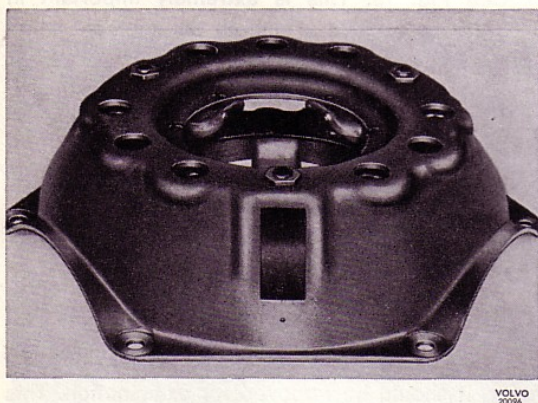
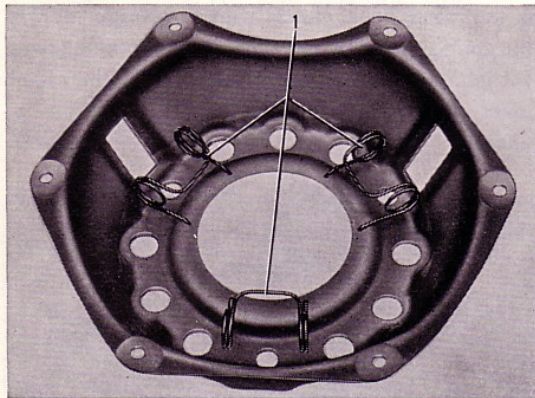

Fig. 15. Line-up marking the clutch casing and pressure plate
Fig. 24. Fitting the springs
1. Mark-up the clutch as shown in Fig. 15, if this has not been done previously.
5. Make sure that the three springs (1, Fig. 24) for the clutch levers are in position and place the clutch cover casing over the six pressure springs in the position which has been already marked-up, see Fig. 15.
6. Place on the 3-point support, arms, thrust rods and wrench handle. Press down the clutch cover casing until it makes contact with the bottom plate all round. Place the adjusting nuts on the eyebolts (32) and screw them on to full nut width. The clutch is now ready for adjusting.